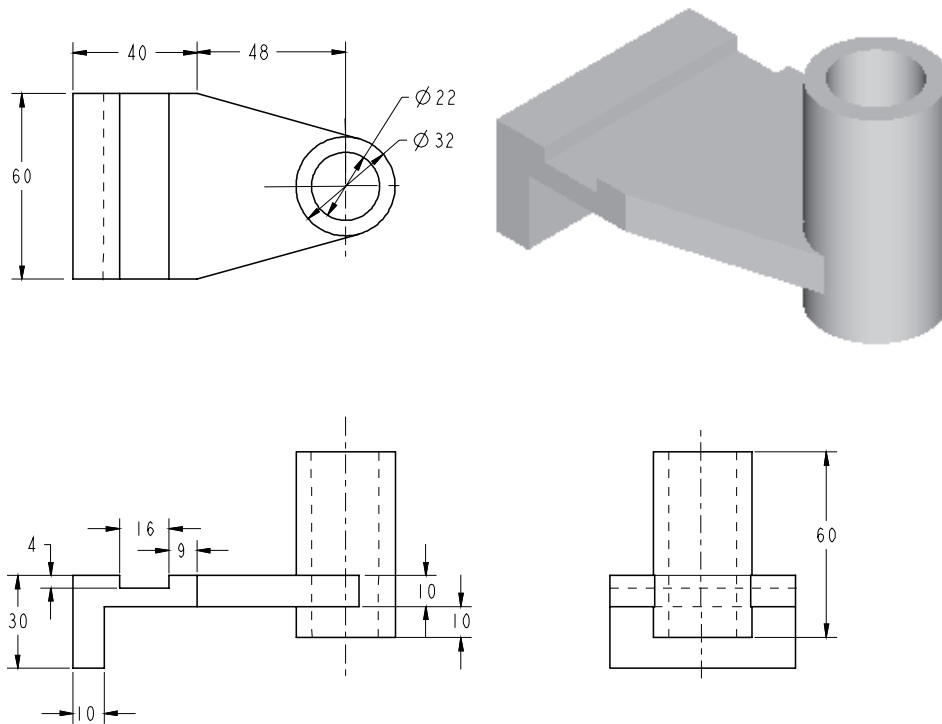

Figure 4-80 Top, front, right-side, and isometric views of the model
In this tutorial you will create the model shown in Figure 4-80. This figure also shows the front view, the top view, and the right-side view of the solid model. **(Expected time: 45 min)**
- a. First examine the model and then determine the number of features in it, see Figure 4-80. The model is composed of three features: one on the left (base feature), one in the middle, and one hollow cylindrical feature with a hole.